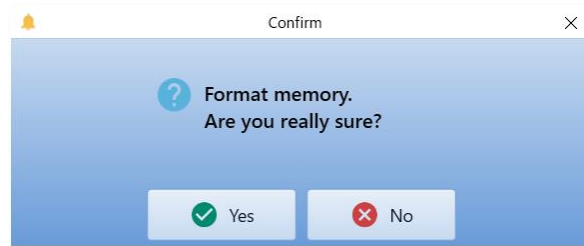

Figure 6.28 Final confirmation message
- (2) Displays final confirmation message. (Figure 6.28)